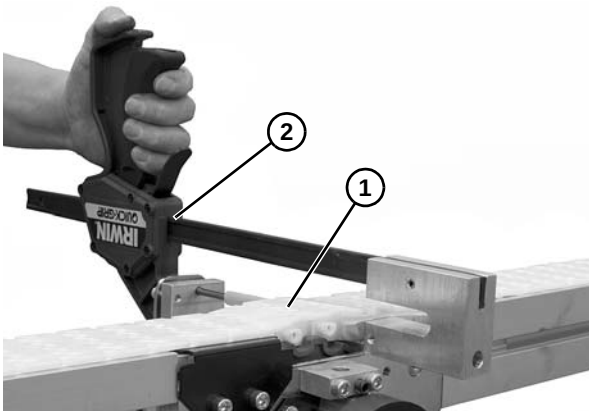

Figure 29
4. Install belt around conveyor ends and bring the ends of the belt (**Figure 29, item 1**) together.
5. Insert the belt rod. Use a punch and hammer or belt removal tool #203480 (**Figure 29, item 2**) to press pin just below flush with side of belt. Stop when pin detent is felt.